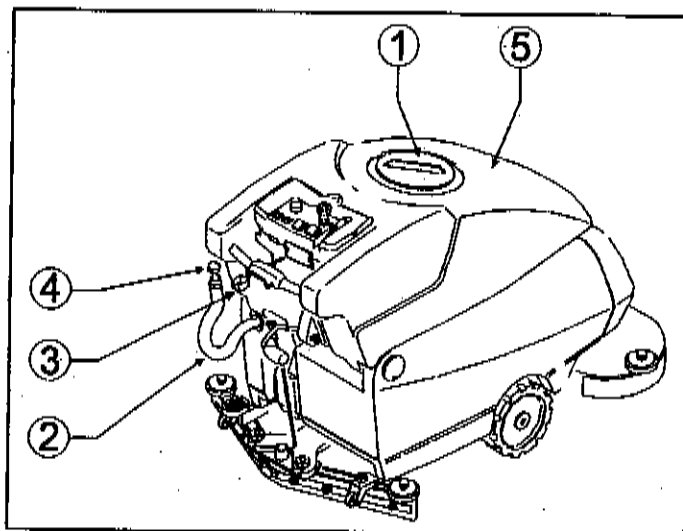

Fig. 12
- take off the tank cap (fig. 12, ref. 1) from the recovery tank (fig. 12, ref. 5);
- detach the drain hose (fig. 12, ref. 2) from its seat, holding it in correspondence with the fixing spring (fig. 12, ref. 3) and pull it horizontally;
- keeping the hose end as much high as possible, take off the drain cock (fig. 12, ref. 4) from the hose by unscrewing it;
- put back the cap (fig. 12, ref. 1) on the recovery tank, making sure that it is perfectly closed;
- close the drain hose (fig. 12, ref. 2) with the cock (fig. 12, ref. 4) screw-tightening it; check that it is perfectly closed and refit the hose in its housing.